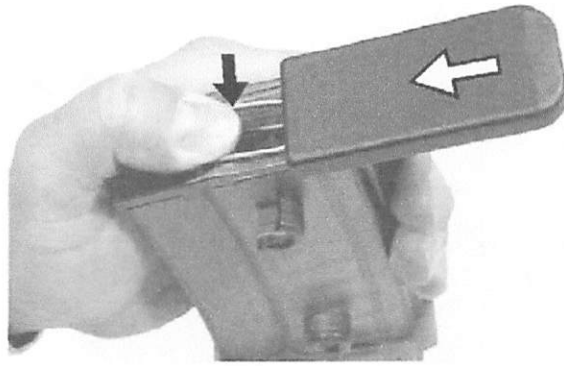

Fig. 29 Reassembly of magazine
- ⇒ Push the follower spring into the magazine housing with your thumb (Fig. 29).